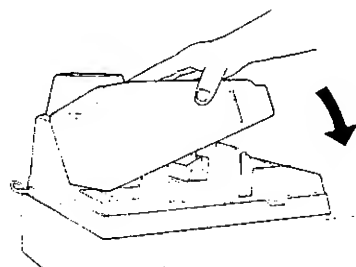

Fig. 4
5. When replacement is completed, attach the Paper Cover (Fig. 4) and turn the Mode Lock to the "REG" position.